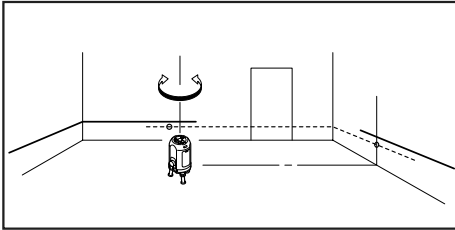

Fig. 7
- 1) Place the unit on the floor of an indoor corner at the point of 3 to 5 m from the one wall and 1 m from the another one. (See the Fig.7) Turn the level adjusting ring (9 ) so that the air-bubble in the round vial (4) is centered.
- 2) Turn on the power switch (12).